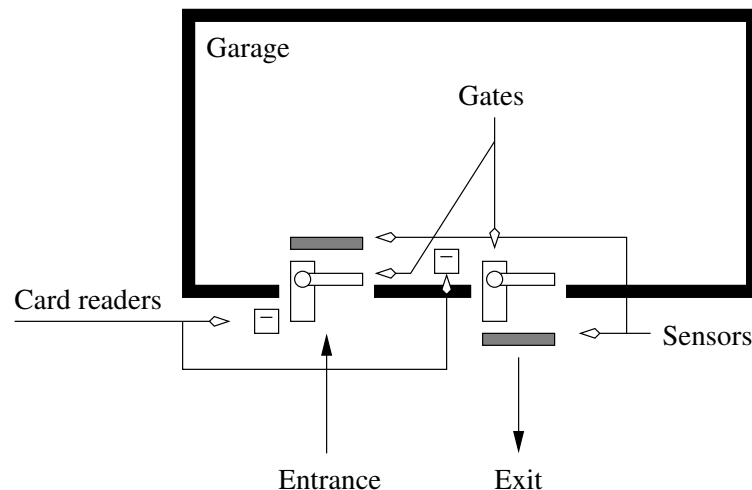

Figure 8.33: The layout of an automated garage.
14. **(36 pts.)** Design a digital circuit to control access to an automated parking garage containing 828 parking spaces. Drivers pull up to the garages gate and insert their pass card into a card reader. The card reader sends the pass card ID number to the digital circuit. If their pass card has a valid code then the gate opens. There is a pressure sensor just inside the entry way which sends a signal to the circuit whenever a significant load is present (over 150 lbs). The exit procedure is similar, the users have to insert their pass card into a card reader. The digital circuit then raises the exit gate bar, a pressure sensor at the exit tells the circuit when it is OK to close the exit gate. See Figure 8.33.